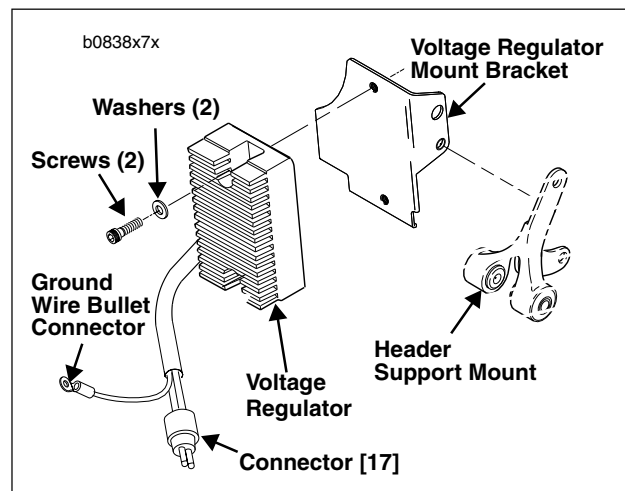

Figure 7-48. Voltage Regulator
1. See Figure 7-48. Attach **new** voltage regulator using screws and washers. Tighten screws to 9-11 ft-lbs (12-15 Nm).